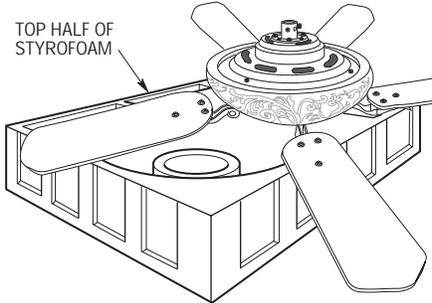

Figure 11
- 7. Carefully turn the fan motor assembly upside down in preparation for hanger ball/downrod installation. Place the partially assembled fan into the top half of the styrofoam as shown in Figure 11. Do not rest fan weight on the light fitter sockets.